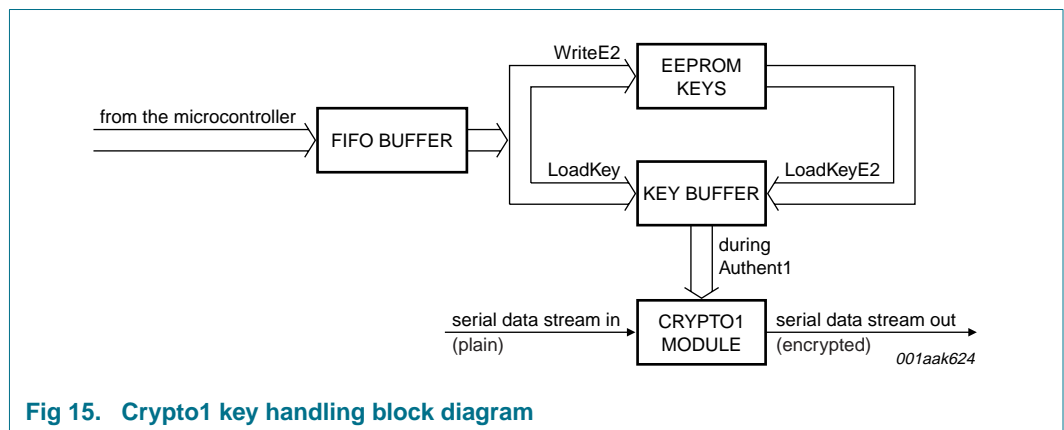

Fig 15. Crypto1 key handling block diagram
- the microprocessor's FIFO buffer using the LoadKey command (see Section 11.7.2 on page 97). This is shown in Figure 15.